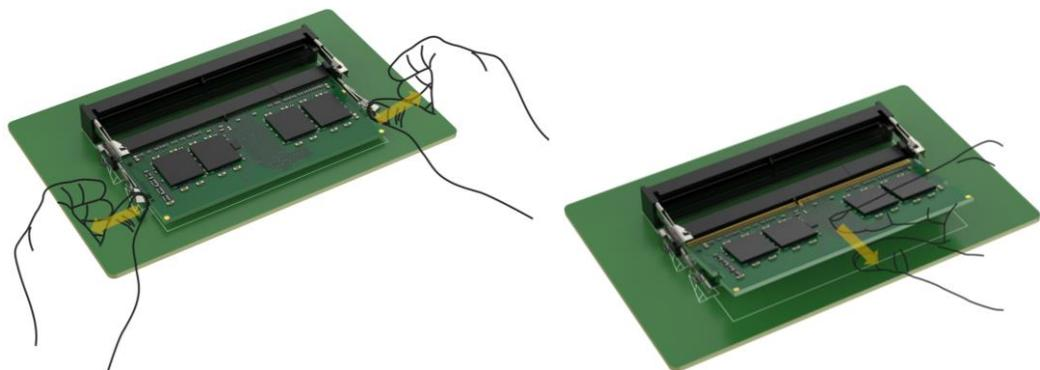

Figure 3-2: Remove the Memory
Step 1: Remove the installed memory. Push outwards the retaining clips located at each end of the SO-DIMM slot, which causes the memory module to pop up. Then gently pull the module out of the slot along the angle it has adopted. See **Figure 3-2**.